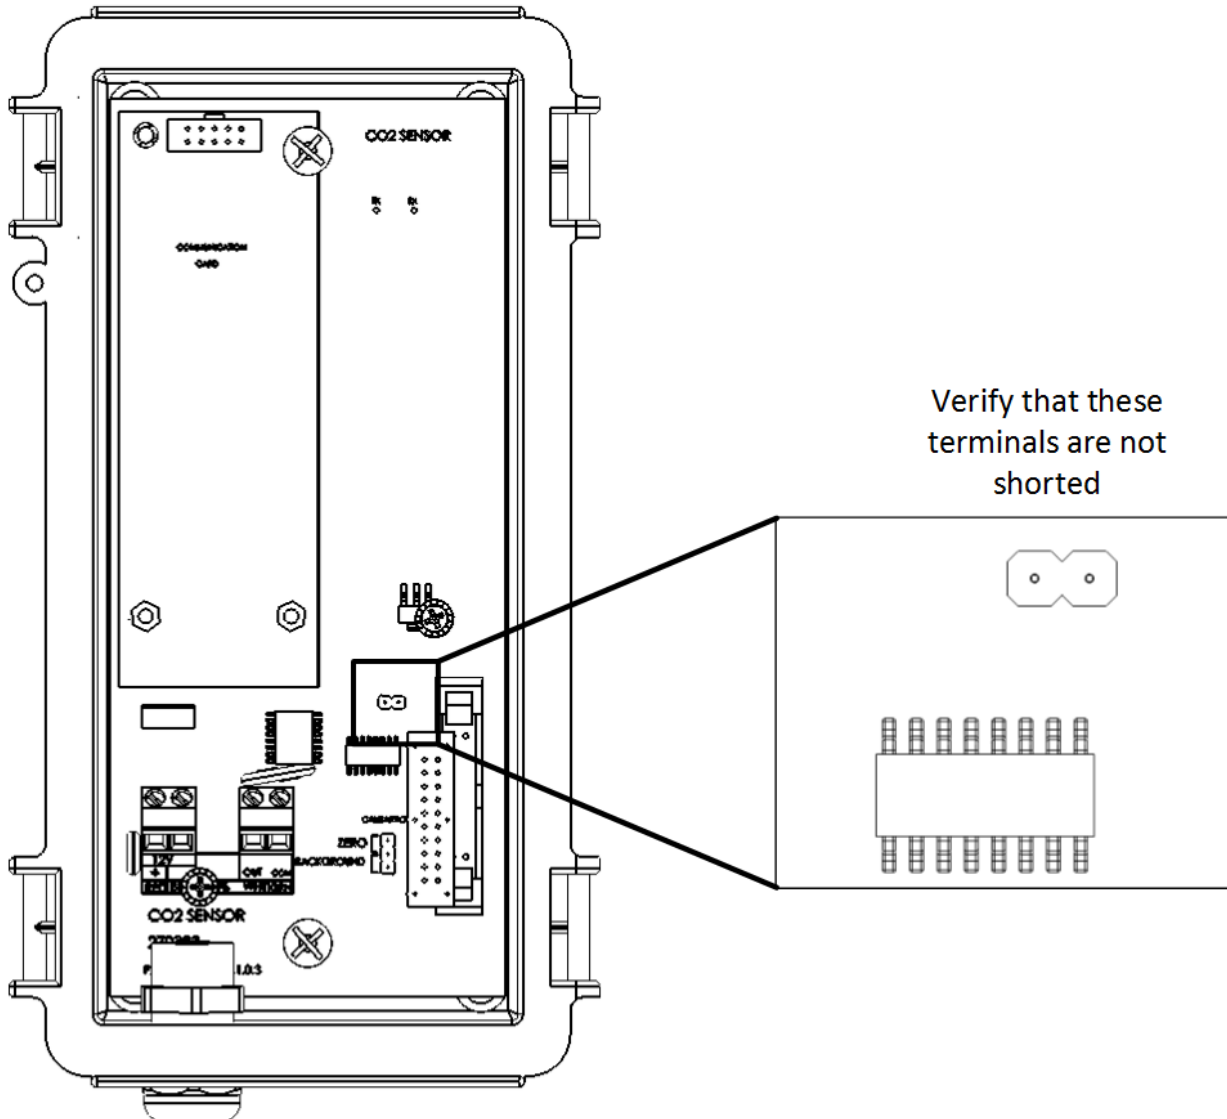

Figure 2: J2 Jumper
*NOTE* Verify that J2 is not shorted (refer to Figure 2).